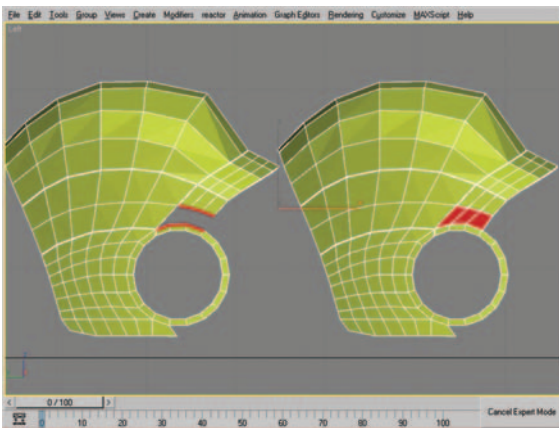

Figure 8.33 Edge selection and resulting new polygons after using Bridge on the selection.
35. At the Edge subobject level, select the six edges shown in Figure 8.33 (left) and use Bridge to create three new polygons between them as seen in Figure 8.33 (right).